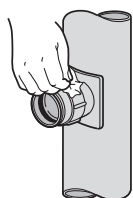

Fig.25d Removing excess cement
**Step 9** – Remove excess cement (Fig.25d)